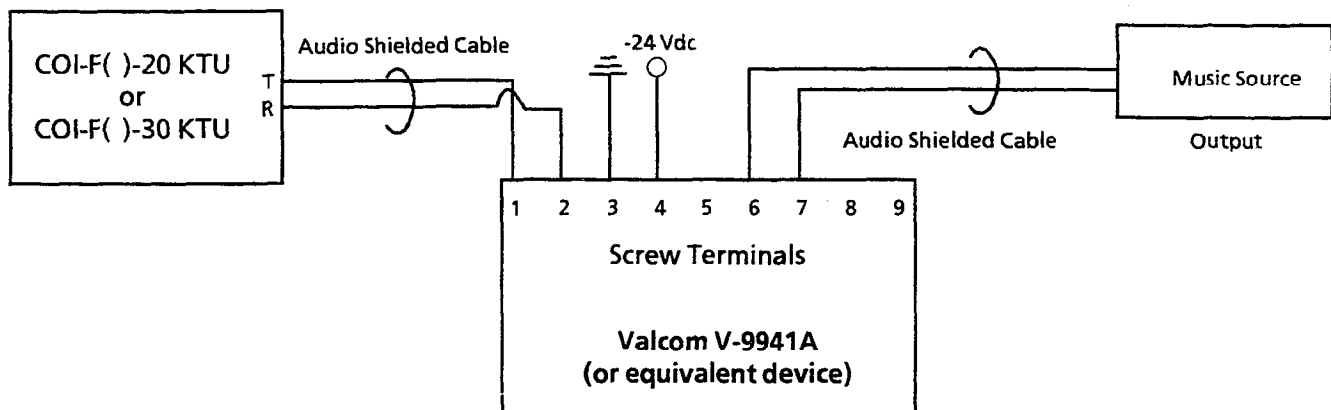

Figure 3-124 Music Source Connection
3. Connect a locally provided Background Music source to the V-9941A (or equivalent device). Refer to Figure 3-124 - Music Source Connection and to Table 3-35 - Connection Information/Connection and Port Relationships.